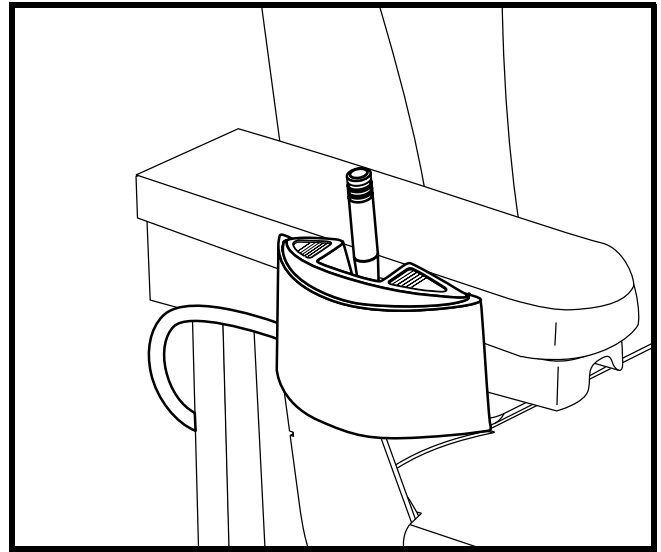

Figure 24. Power Seat Toggle Switch (Shown on Armrest)
1. Press forward on the toggle switch to raise the seat. See **figure 24**.